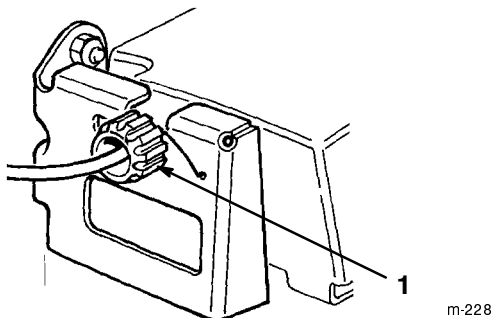

Figure 33
2. Rotate the control knob clockwise $\frac{1}{2}$ turn if the lawn mower does not self-propel. If the lawn mower creeps forward, rotate the knob $\frac{1}{2}$ turn counterclockwise to loosen the belt (Fig. 33).